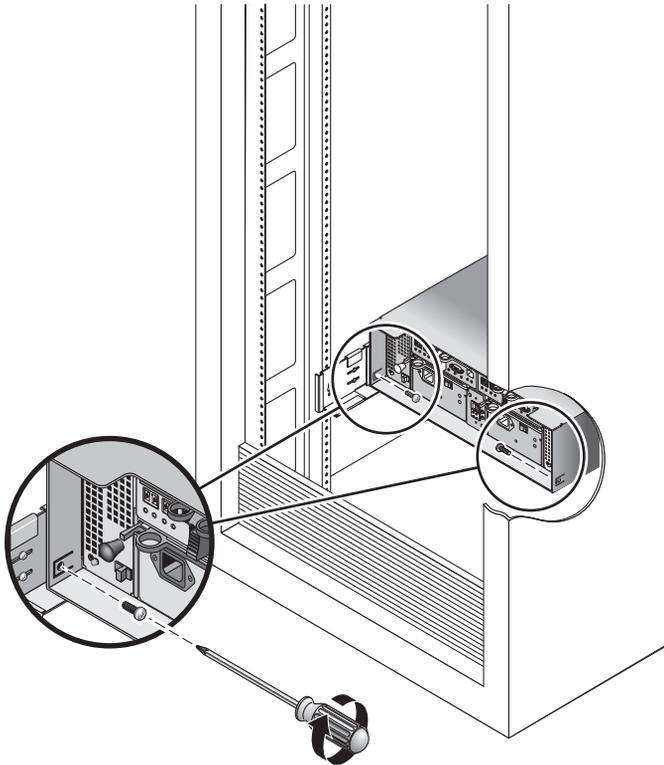

FIGURE 2-18 Securing the Array to the Back of the Cabinet
6. At the back of the array module, install and tighten two 8-32 screws (one per side) to secure the back of the array to the cabinet (FIGURE 2-18).